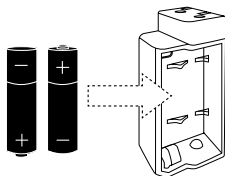

FIGURE 1
- Insert the alkaline batteries into the battery tray according to polarity. (Fig. 1)